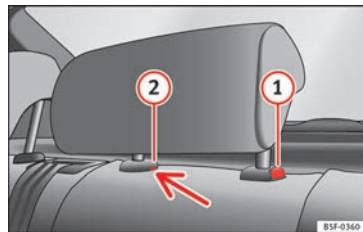

Fig. 141 Rear centre head restraint: release point.
- To set the head restraint lower down, press the ① »» Fig. 141 button and move it downwards.
- Press button ① »» Fig. 141, while simultaneously pressing on the security hole ② »» Fig. 141 with a flat screwdriver a maximum of 5 mm wide, and remove the head restraint.